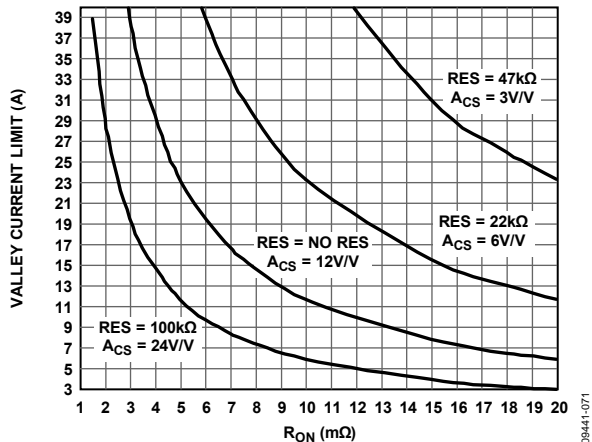
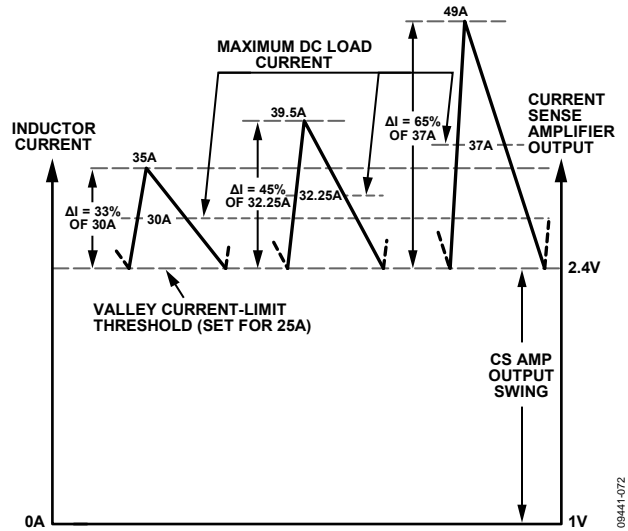

Figure 71. Valley Current-Limit Value vs.  $R_{ON}$  of the Low-Side MOSFET for Each Programming Resistor (RES)
Figure 72. Valley Current-Limit Threshold in Relation to Inductor Ripple Current
Although the ADP1878/ADP1879 have only four discrete current sense gain settings for a given  $R_{ON}$  variable, Table 7 and Figure 71 outline several available options for the valley current setpoint based on various  $R_{ON}$  values.
**Table 7. Valley Current Limit Program (See Figure 71)**
The valley current limit is programmed as listed in Table 7 and shown in Figure 71. The inductor that is chosen must be rated to handle the peak current, which is equal to the valley current from Table 7 plus the peak-to-peak inductor ripple current (see the Inductor Selection section). In addition, the peak current value must be used to compute the worst-case power dissipation in the MOSFETs (see Figure 72).